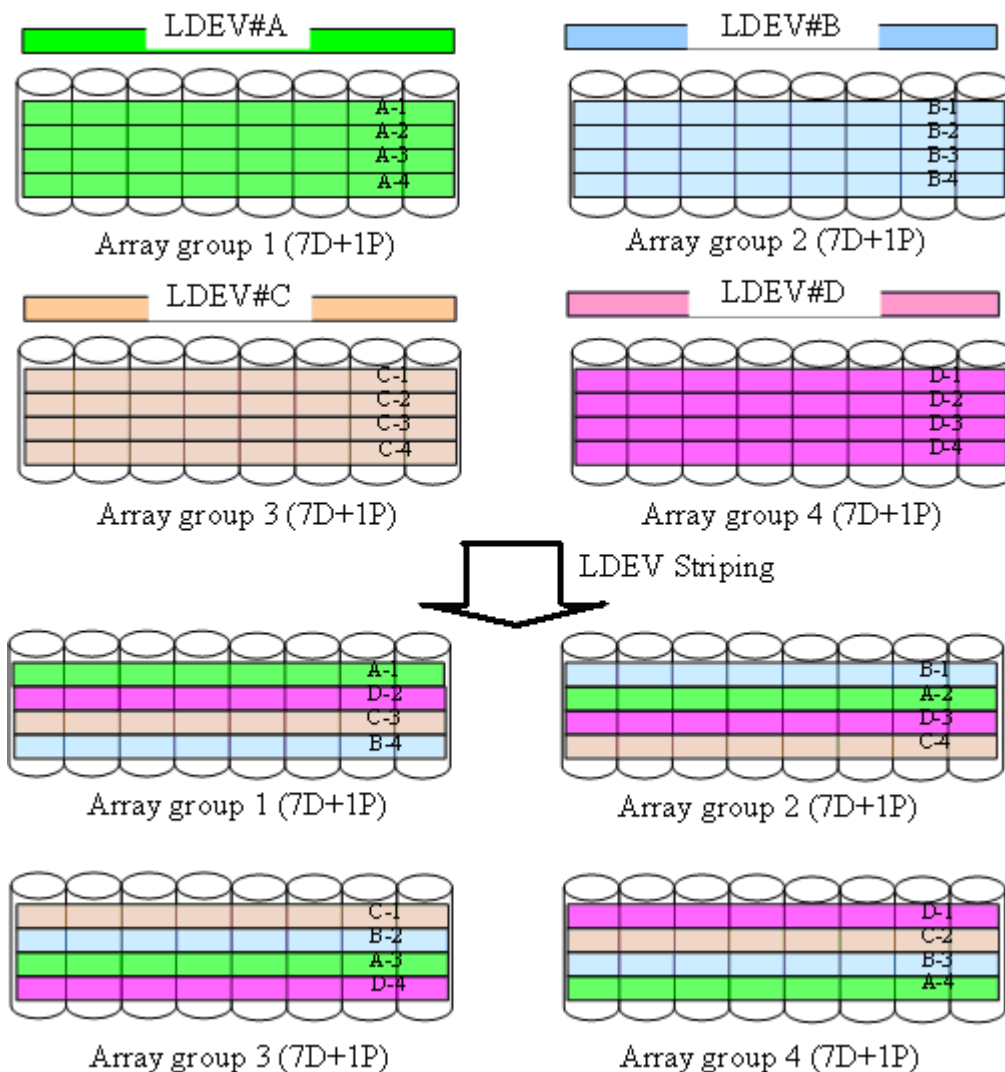

Figure 2-5 LDEV Stripping Across 4 RAID 5 (7D+1P) Array Groups
- LDEV striping across four RAID 5 (7D+1P) array groups. The maximum number of LDEVs in this configuration is 2000. See Figure 2-5 LDEV Striping Across 4 RAID 5 \(7D+1P\) Array Groups on page 2-10.